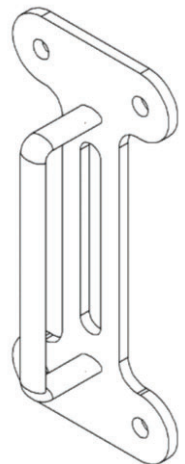

Figure 3
5.4.1. Use the Handle to hold the Mounting Hole Jig Vertically (Figure 3) on the side of the train car as shown in STEP 5.2.1